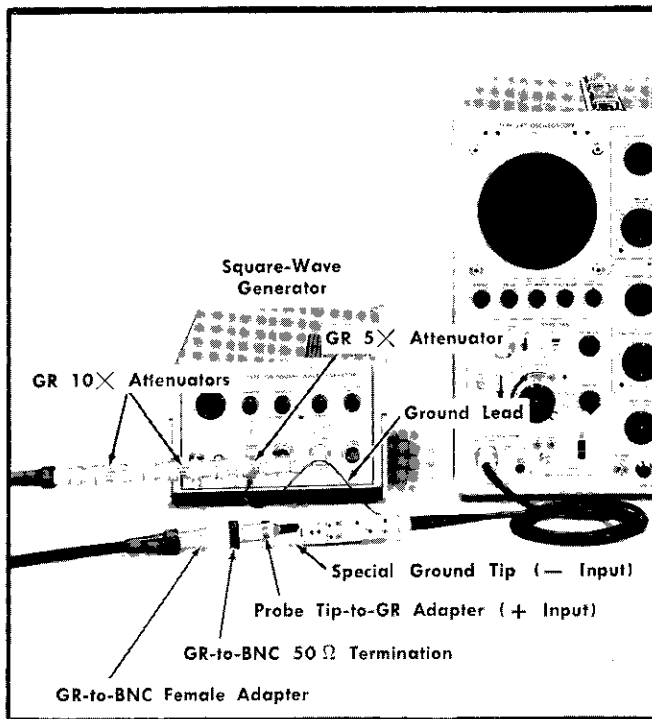

Fig. 6-12. Equipment setup for noise measurement, step 7.
a. The preliminary control settings apply. The equipment setup is shown in Fig. 6-12.